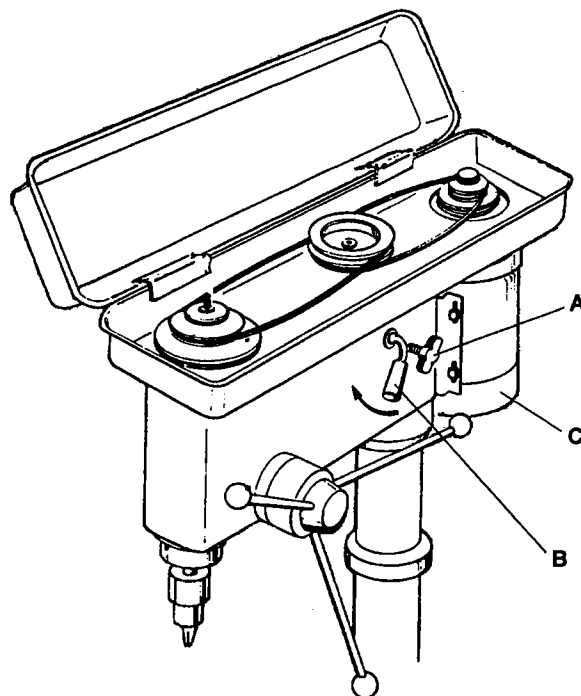

FIGURE 7
2. Loosen the two slide bar bolts (A), Figure 7, located on the right and left hand side of the head.
3. Push the slide motor handle (B) as shown in Figure 7 to reposition the motor (C) and loosen the belts.
5. Slide motor back toward rear of drill press by pushing slide motor handle (B) down.
6. Tighten both slide bar bolts (A) and check belt tension.